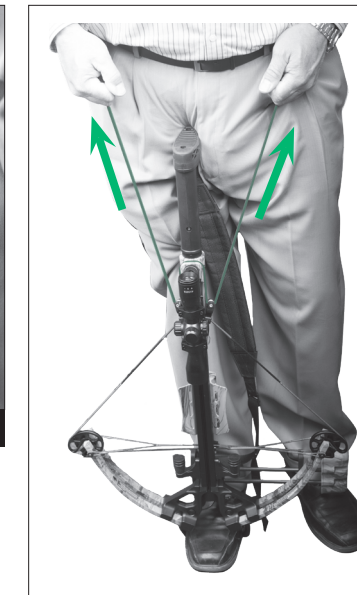

FIGURE 18
- 1g Pull both t-handles simultaneously, smoothly drawing the crossbow string back under the bolt retention spring and into the string opening of the trigger mechanism. (Tension will keep the cocking hooks against the rail if done properly. (Fig. 18)